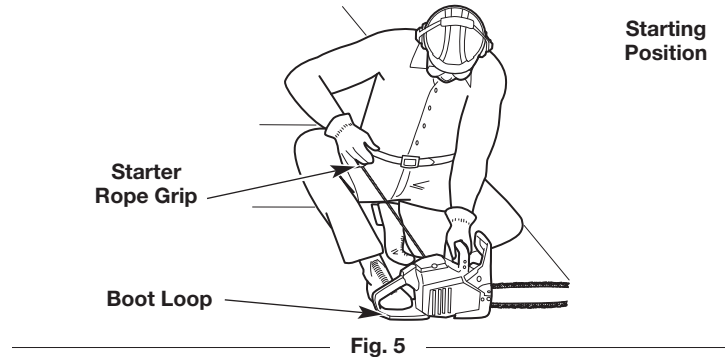

Fig. 5
WARNING: Avoid accidentally starting the unit. To avoid serious injury, the operator and the unit must be in a stable position when pulling the starter rope (Fig. 5).
9. **DO NOT** touch the throttle control. Crouch in the starting position (Fig. 5). Hold the front handle with the left hand. Hold the starter rope grip with the right hand. Insert the right foot into the boot loop to help hold the unit firmly in place.
10. **DO NOT** touch the throttle control. Pull the starter rope with a controlled and steady motion **5 times** (Fig. 5).